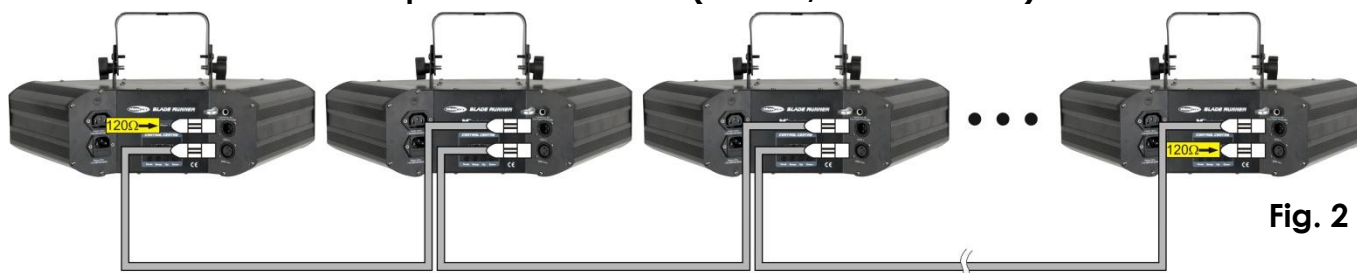

Fig. 2
4. Link the units as shown in (Fig. 2), Connect a DMX signal cable from the first unit's DMX "out" socket to the second unit's "in" socket. Repeat this process to link the second, third, and fourth units. You can use the same functions on the master device as described on page 12 (Auto Run or Music control). This means on the master device you can set your desired operation Mode and all slave devices will react the same as the master device.